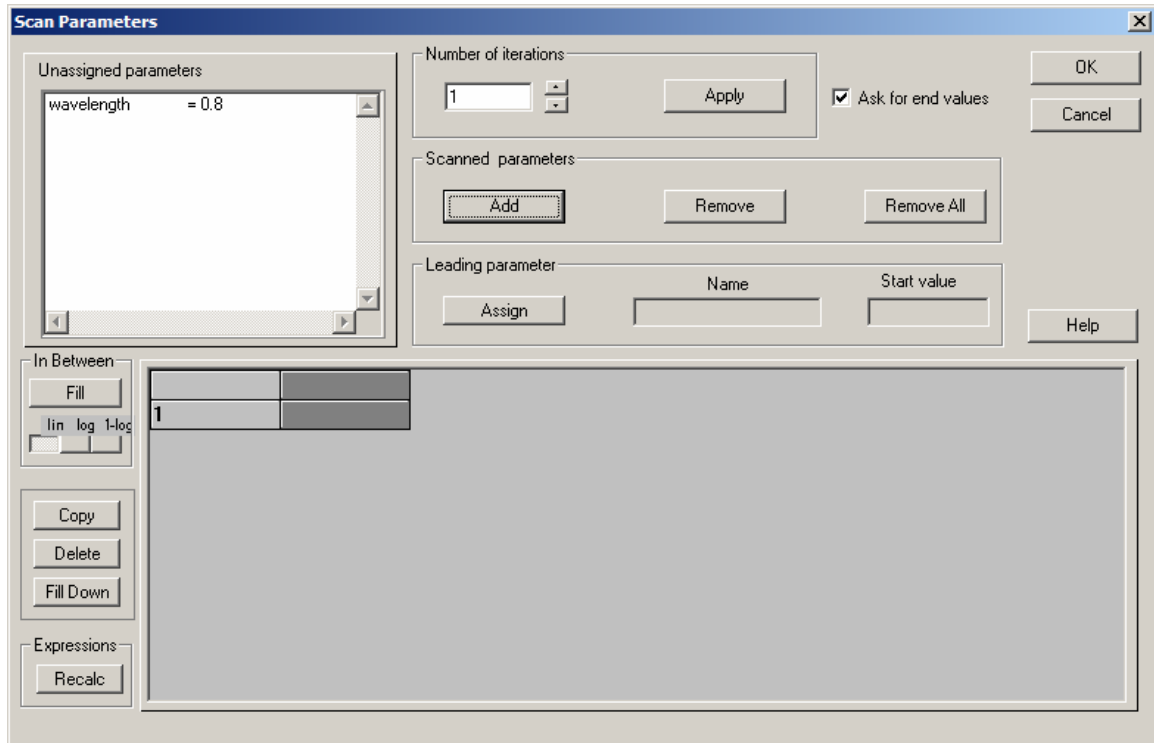

Figure 16 Scan Parameters dialog box
- 3 Click **Scan Parameters** under **Simulation** menu. **Scan parameters** dialog box appears (see figure 16).